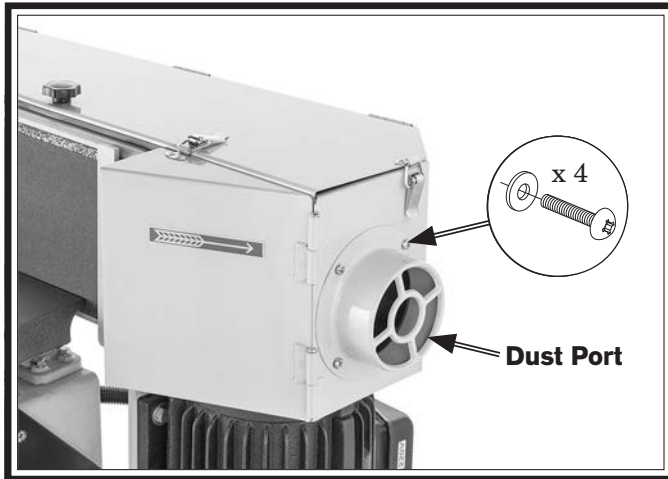

Figure 24. Main dust port installed.
- 10.** Attach dust port to end of sander with (4) $\frac{1}{4}$ "-20 x $\frac{1}{4}$ " Phillips head screws and $\frac{1}{4}$ " flat washers (see **Figure 24**).